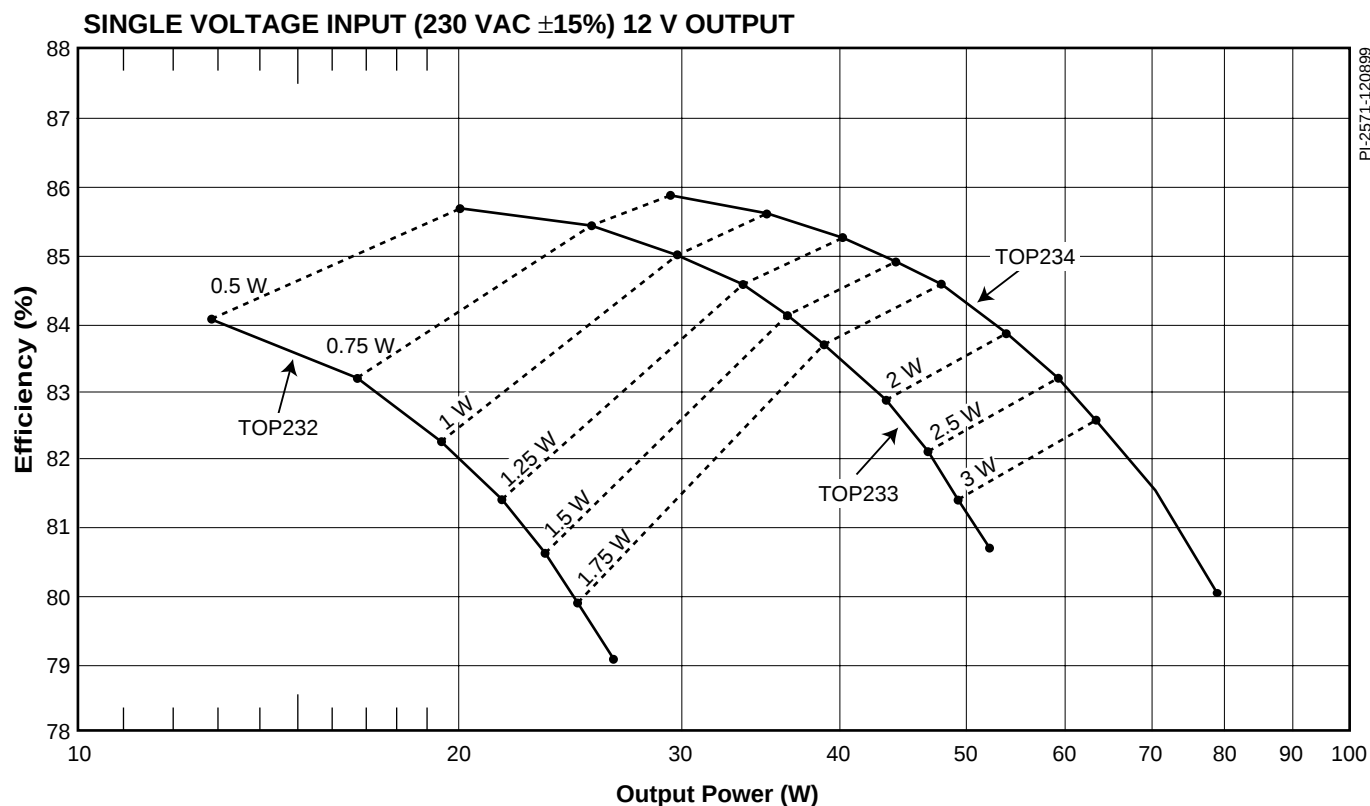

Figure 3. Efficiency vs. Output Power with Contours of Constant TOPSwitch-FX Power Loss for Single Voltage Application and 12 V Output.
- The single 230 VAC input (195 - 265 VAC) curves in Figures 3 and 4 assume a worst case of 195 VAC and an average voltage across the bulk capacitor of over 250 VDC (peak of 275 V and trough of 230 V).
TYPICAL COMPONENT PARAMETERS FOR SINGLE VOLTAGE INPUT (230 VAC $\pm 15\%$) POWER SUPPLY (Figures 3 and 4)